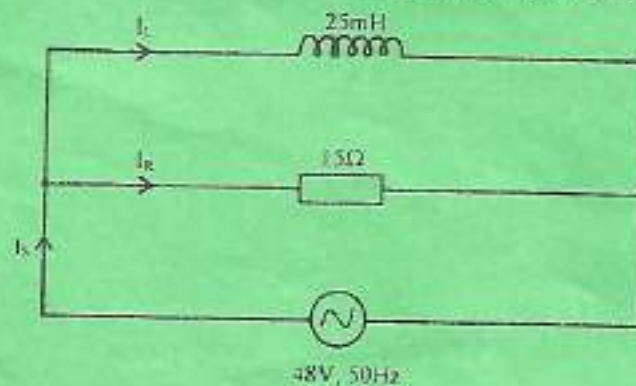

Fig. 1
- (b) Figure 1 shows an a.c circuit. Determine the currents I_L , I_R and I_S .